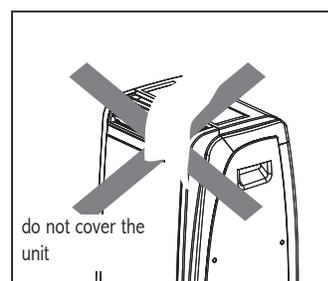

Fig. 24.
- Do not obstruct the air intake and outlet (fig. 24). Leave the grilles free;